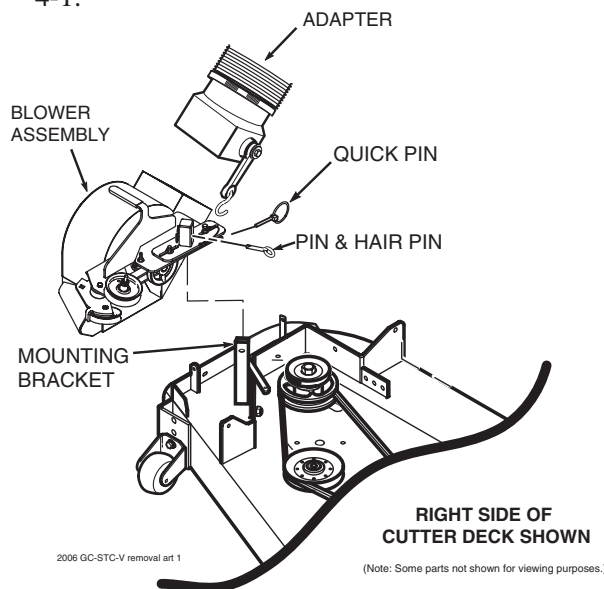

FIGURE 4-1
3. Remove the rubber strap holding the adapter to the blower assembly and the large quick pin securing the blower to the discharge mounting bracket. See Figure 4-1.
4. Remove the belt, pin, hair pin and large quick pin securing the blower assembly to the cutter deck and remove the blower assembly. See Figure 4-1.